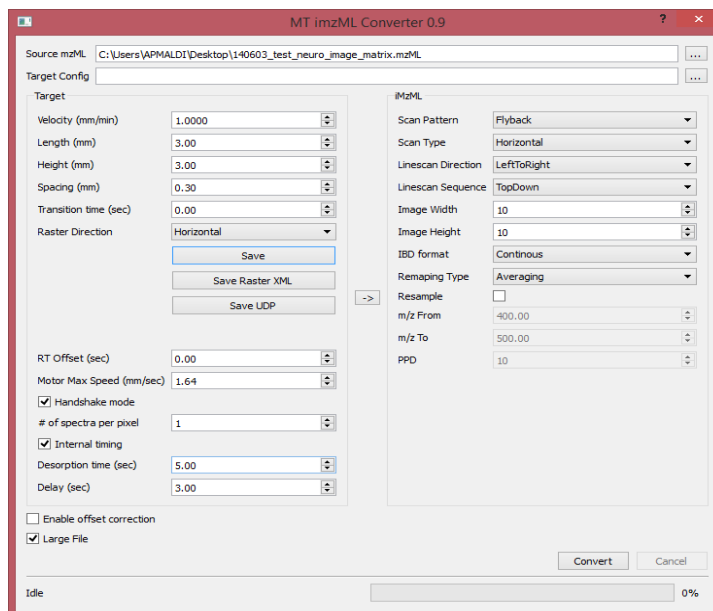

Figure 7.36. The MT imzML Converter 0.9
4. Open the MT imzML Converter- the demo software provided by MassTech. Populate the dialog box with the information as shown in Figure 7.36.